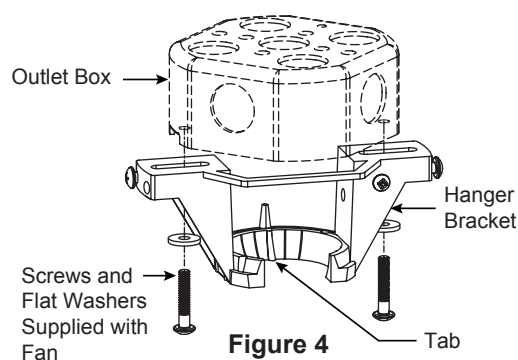

Figure 4
- ☐ 4. Loosen the two set screws and locking nuts in the downrod support of the motor assembly. Route the black, white and blue wires through the downrod. (Figure 4)
- ☐ 4. Align the three big slots in the ceiling canopy to the three screws in the motor coupler. Firmly attach the canopy cover to the motor with the previously removed screws. (Figure 4)
- ☐ 2. Securely attach the hanger bracket to the outlet box using the #8-32 outlet box screws and washers supplied with the fan. (Figure 4)
**NOTE:** Outlet box screws pass through slotted holes of the hanger bracket. (Figure 4)
- ☐ 4. Carefully lift the fan and seat the downrod/hanger ball assembly onto the hanger bracket that was just attached to the outlet box. (Figure 5) Be sure the groove in the ball is lined up with tab on the hanger bracket. (Figure 4)